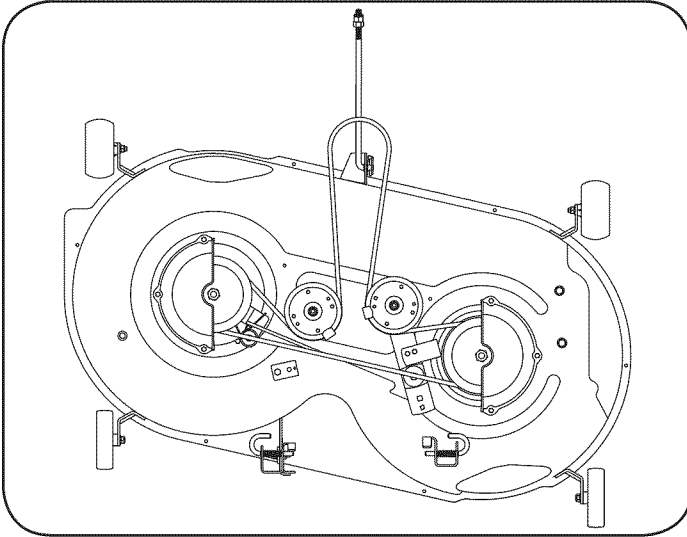

Figure 15
5. To place the new belt, begin by routing the belt around the two outer spindle pulleys as shown in Figure 15.
6. Then route the belt around the two deck idler pulleys as shown in Figure 15.